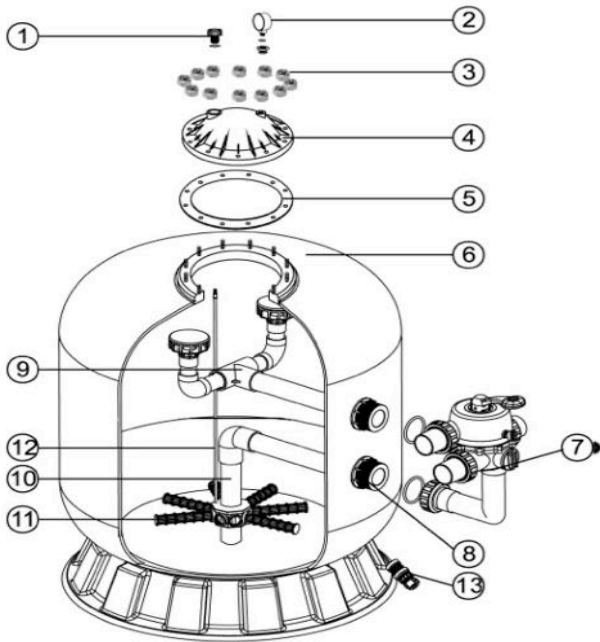

Figure 2
2. The laterals are damaged. (Please see Figure 2, item No.11-Laterals).	2. If water outlet pipe also leaking, that means the laterals are broken, please replace these. (See Figure 2, item No.11-Laterals)